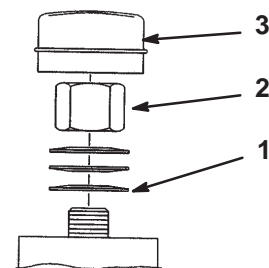

Figure 54
2. Remove the dust cap from the caster and tighten the locknut (Fig. 54).
3. Tighten until the spring washers are flat and then back off 1/4 turn to properly set the preload on the bearings (Fig. 54).
Important Make sure that the spring washers are installed correctly as shown in Figure 54.